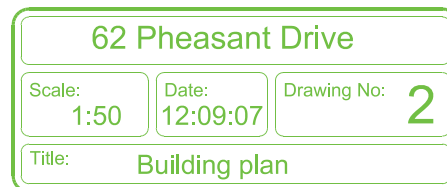

Fig. 11.1 The title block from Drawing number 2 of the sheet set
1. Construct a template **62 Pheasant Drive.dwt** based upon the **acadiso.dwt** template, but including a border and a title block. Save the template in a **Layout1** format. An example of the title block from one of the drawings constructed in this template is shown in Fig. 11.1.